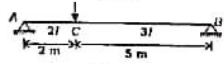

Fig. 4
6. Using conjugate method, determine the rotations at A, B and deflection at C point for a beam shown in Fig. 4,